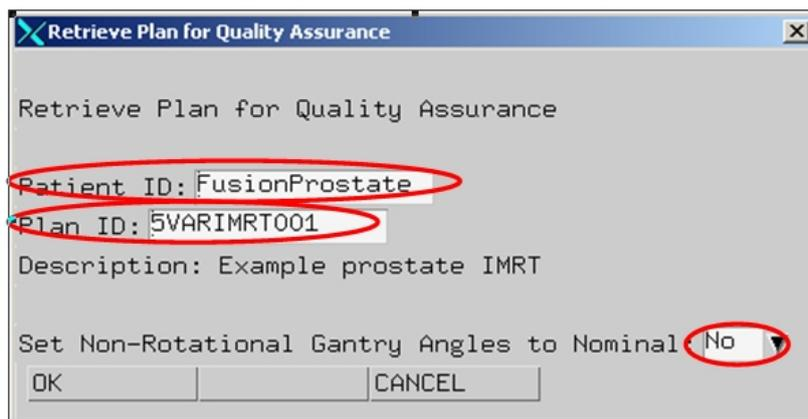

Figure 6 - Patient and plan selection
- Select the patient and the IMRT plan to QA (Figure 6);